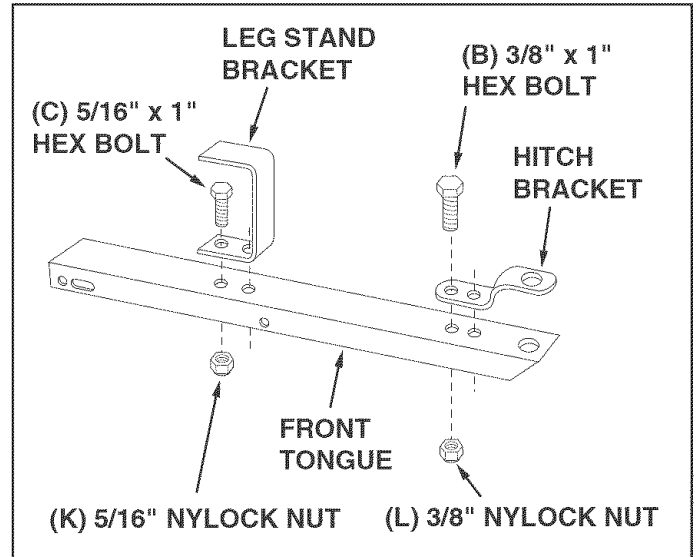

FIGURE 4
STEP 4: (SEE FIGURE 4)
- Assemble the hitch bracket to the front tongue using two 3/8" x 1" hex bolts (B) and 3/8" hex nylock nuts (L). **Tighten.**
- Assemble the leg stand bracket to the front tongue using two 5/16" x 1" hex bolts (C) and 5/16" nylock nuts (K). **Tighten.**